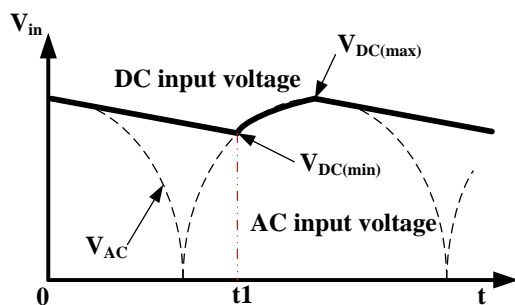

Figure 6: Input Voltage Waveform
The bulk capacitors of the rectifier bridge filter the rectified AC input, which supplies the DC input voltage for the converter. Figure 6 shows the typical DC bus voltage waveform of a full-bridge rectifier.
From the waveform in Figure 6, the AC input voltage (V_{AC}) and the DC input voltage (V_{DC}) are calculated using Equation (4):